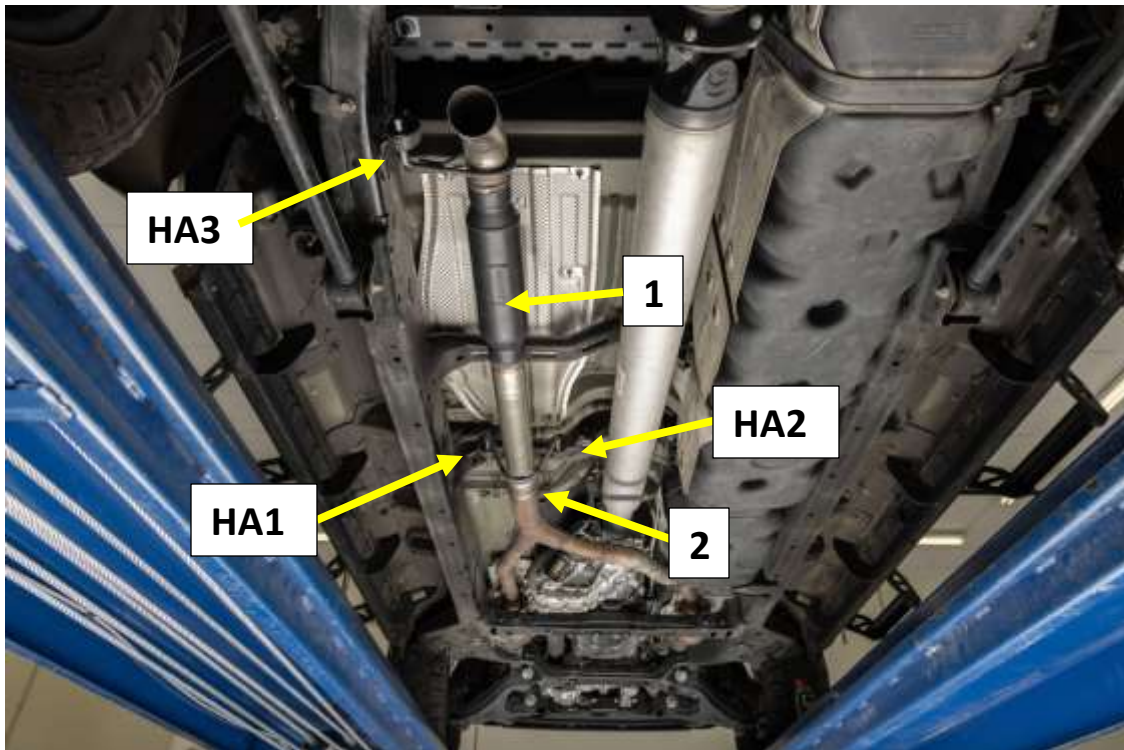

Figure 2
1. Install the supplied MC313BS band clamp **(2)** on to the expanded inlet of the 818138 muffler assembly **(1)**. **Fig.2**
4. Reinstall the rubber muffler hanger isolators and tailpipe Isolator on to the muffler assembly. **Fig.2**